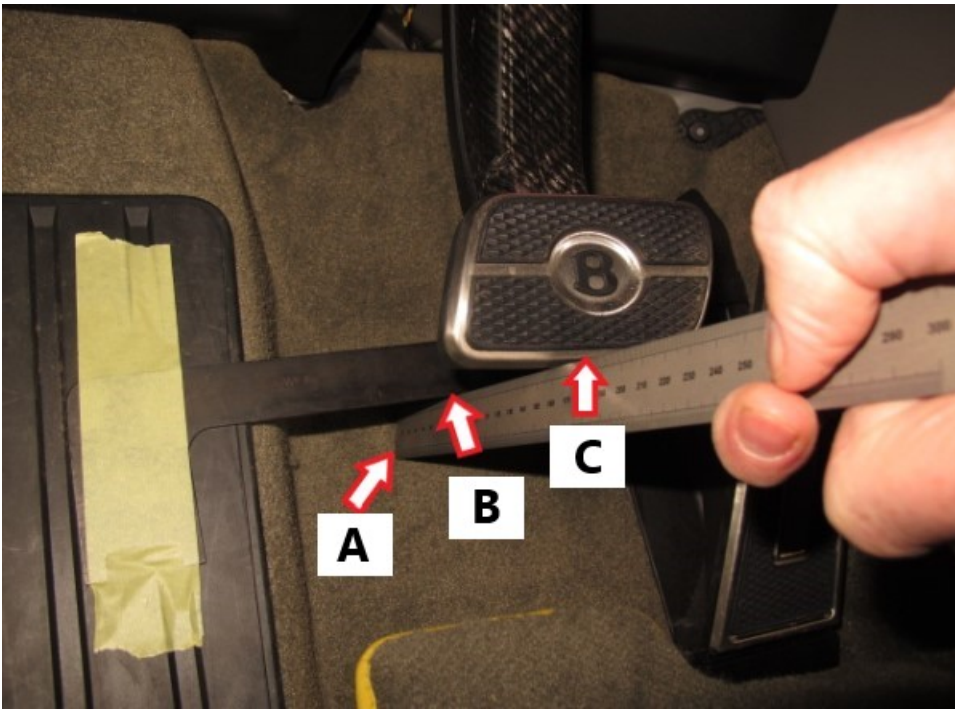

Figure 3
3) Position a steel rule as shown in Figure 3 ensuring the rule is positioned as shown